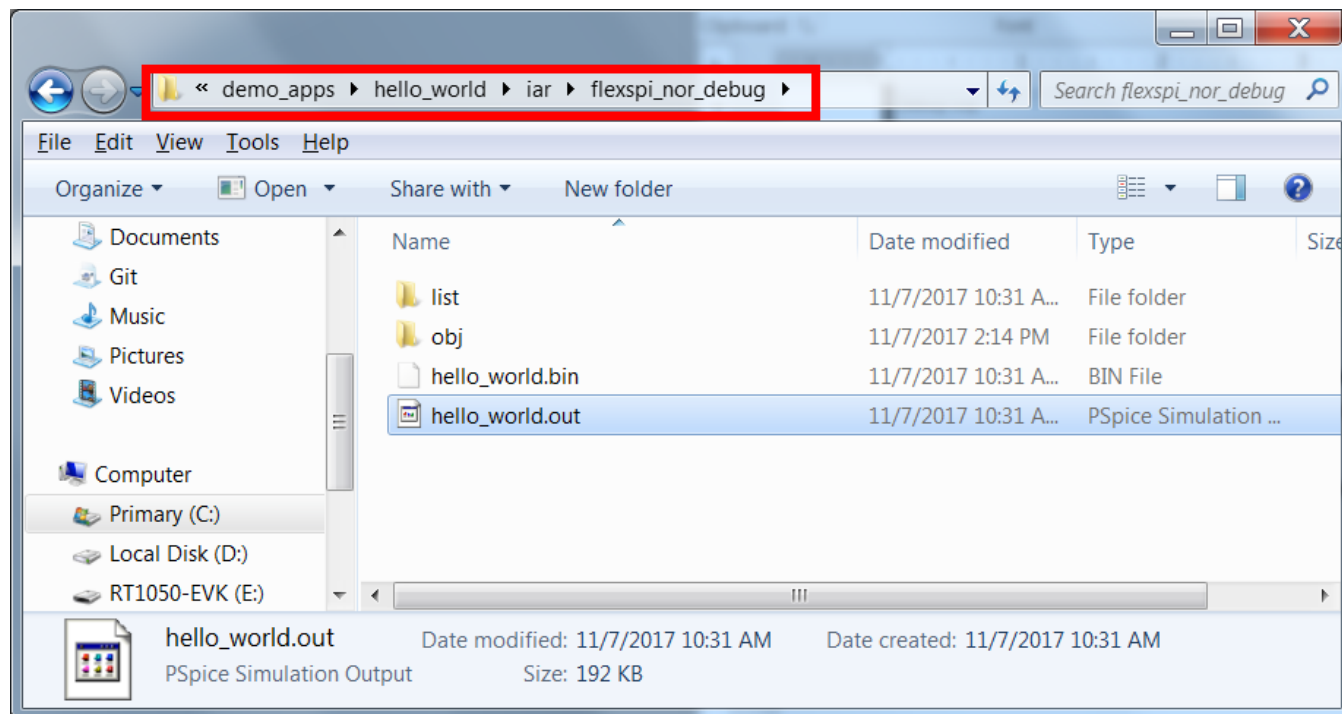

Figure 12. hello_world.out location
- Build the project and generate the image. You can find the `hello_world.out` at following location Figure 12: